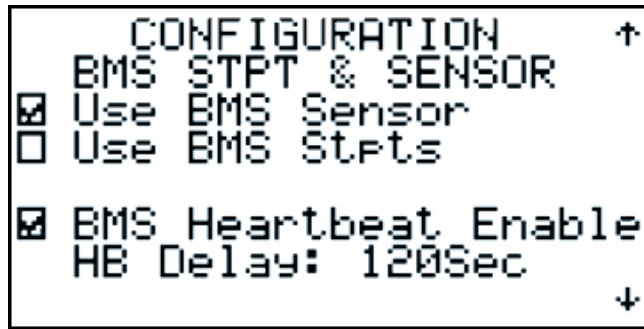

Figure 20
2.3.3.1.4 Configuration – BMS Setpoint & Sensor (Figure 20)
Pressing the **DOWN** key will now display the BMS STPT & SENSOR screen (Figure 20). This screen allows the unit to receive its zone sensor data or setpoints via BMS communication from the user.